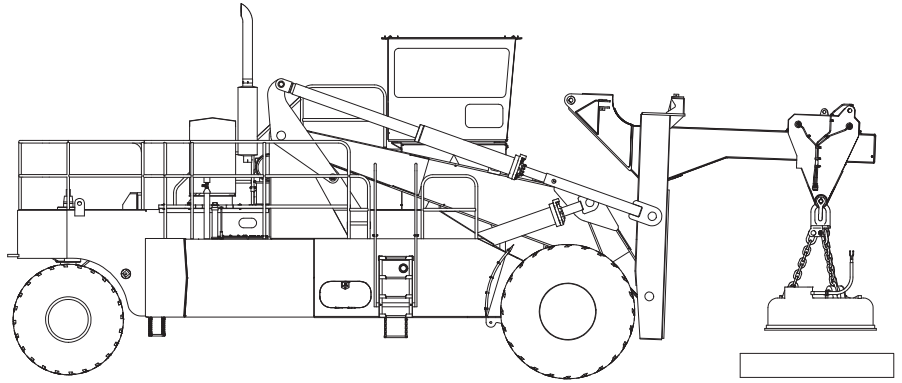

Fig. 5-4
3. Place the machine so that the magnet is approximately centered over the intended load. See Fig 5-4.